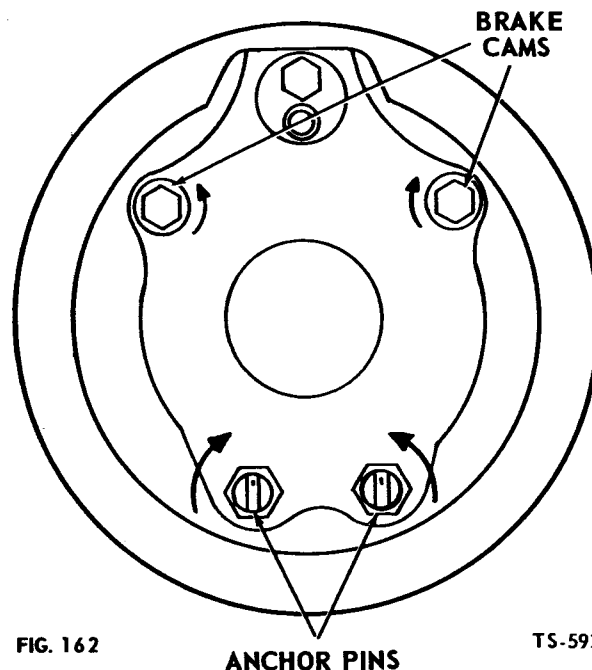

FIG. 162
1. Rotate brake cams in direction indicated (Fig. 162) until brake lining drags on drum.